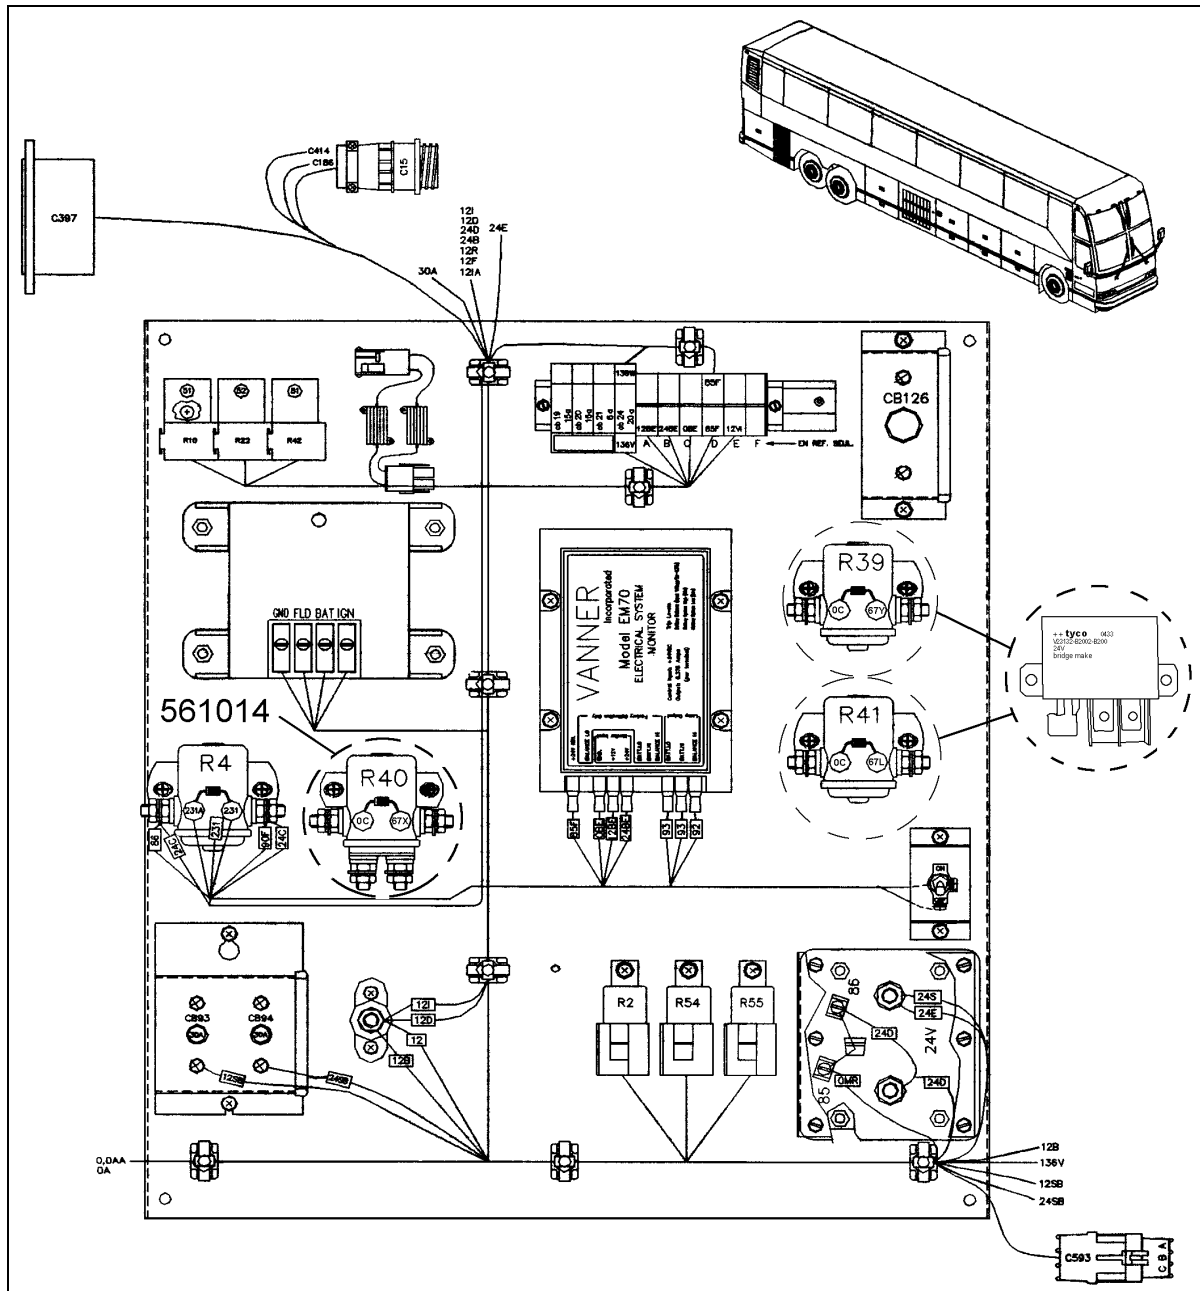

FIGURE 1: MAIN POWER COMPARTMENT
1. Open the main power compartment or the evaporator compartment depending on location of relays (Refer to figures 1 and 2).